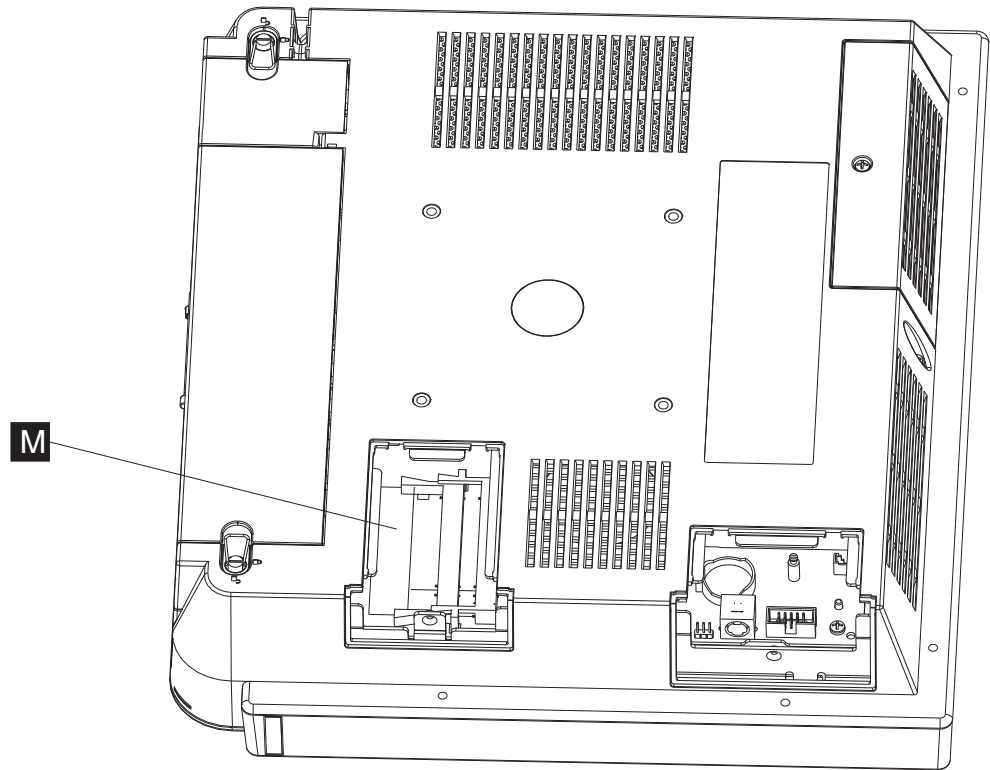

Figure 12. Installing additional memory
3. See the existing memory card position for reference (**M** in Figure 12). Insert the memory card into the memory connector.